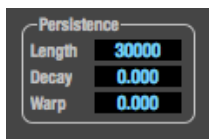

Figure 11-17: The Persistence controls.
The *Persistence* controls (Figure 11-17) affect the appearance of data from when it is first displayed until it disappears from the grid.
*Length* (Figure 11-17) sets the number of recent samples to show on the plot. For example, when Length is set to 10,000, the 10,000 most recent samples are shown.
*Decay* (Figure 11-17 on page 97) determines the brightness or hue of the minimum value. When Decay is zero, the oldest sample is black. When Decay is +1.000, the oldest sample is fully opaque (in Grayscale mode) or red (in Color mode).
*Warp* (Figure 11-17) determines the position of data points after they are first drawn. When warp is zero, data points remain in the same position. When warp is positive, they contract towards the